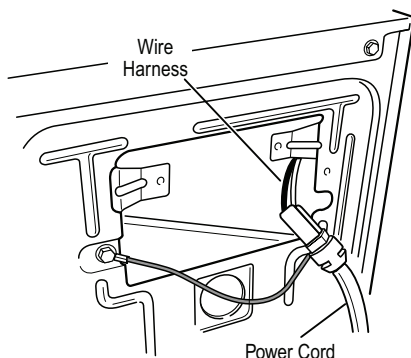
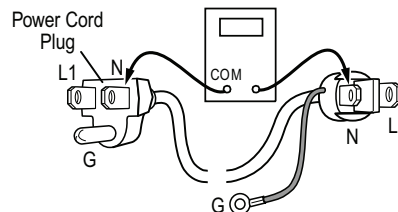

Figure 5. Power cord-to-wire harness connection for gas dryer.
Figure 6. Power cord terminals, gas dryer.
3. Check that the power cord is firmly connected to the dryer's wire harness. See Figure 5.
5. With an ohmmeter, check for continuity between the neutral (N) terminal of the plug and P8-3 (white wire) on the machine control board. The left-hand side of figure 6 shows the position of the neutral terminal (N) on the power cord plug. Also see Figure 17.
- If there is no continuity, disconnect the white wire of the harness from the power cord at the location illustrated in Figure 5. Test the continuity of the power cord neutral wire as illustrated in Figure 6. If an open circuit is found, replace the power cord. Otherwise, go to step 6.
- If there is no continuity, check the continuity of the power cord in a similar way to that illustrated in Figure 6, but for power cord's L1 wire.